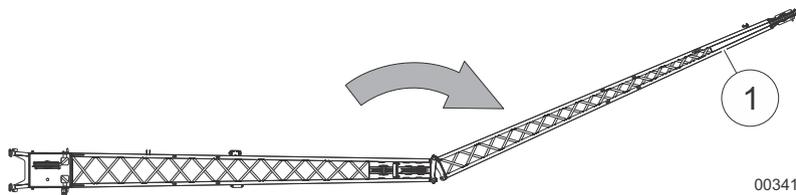

Fig. 170 Pulling the fly boom extension into working position
12	Use the rope to pull the fly boom extension (1) in Fig. 170 into working position.